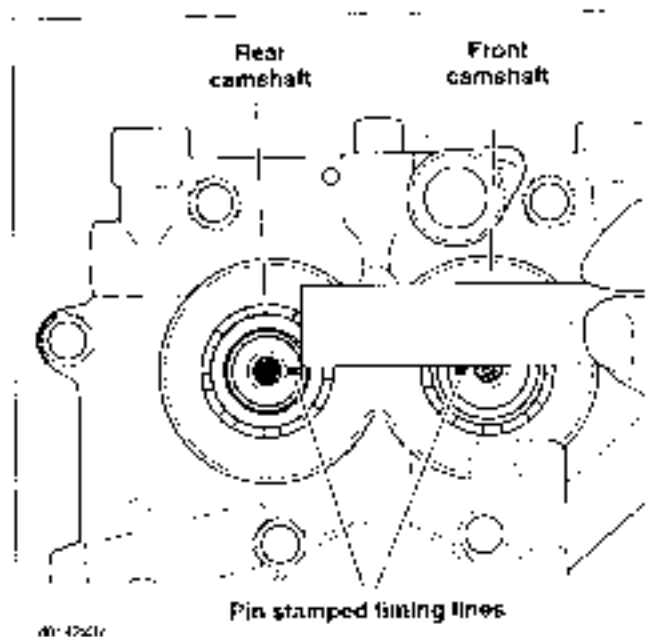

Figure 3-139. Verify Alignment of Punch Marks
17. See Figure 3-139. Since the pin stamped timing lines on the secondary sprockets cannot be observed once the camshafts are pressed into the bearings, note that the outboard ends of the shafts have a second set of timing lines. Using a straightedge, verify that those timing lines are in alignment. If they are not, then the camshafts must be removed and reinstalled (with a new bearing set).